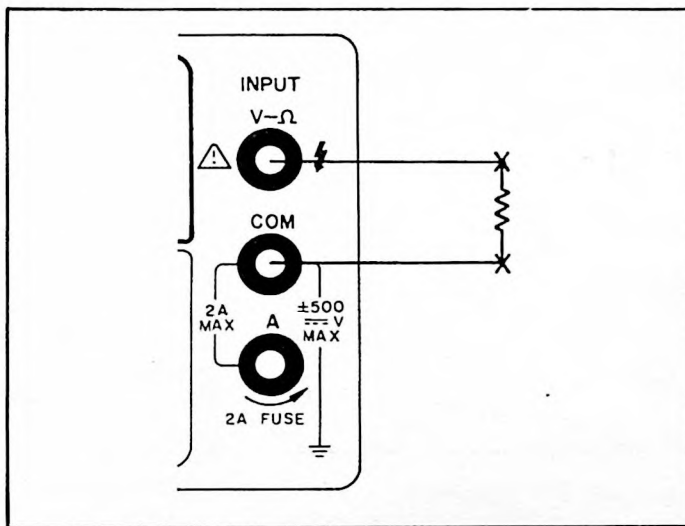

Figure 3-8. Resistance Measurement.
- Connect test leads from the Multimeter V Ω (=) and COM (-) terminals to the resistance under test as shown in Figure 3-8.